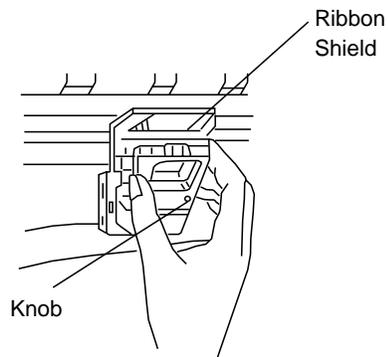

Figure 16-3. Model 602 ROP Ribbon Cartridge
4. Grasp the ribbon cartridge and pull up to unseat it as shown in Figure 16-3.